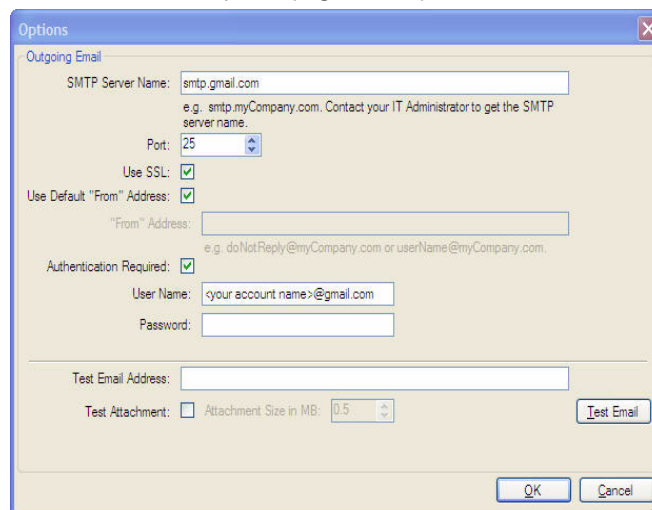

Figure 103. Options to configure email.
1. Select the **Configure Outgoing** email option on the **Email** tab of the **User Preferences** window. The **Options** window opens (Figure 103).